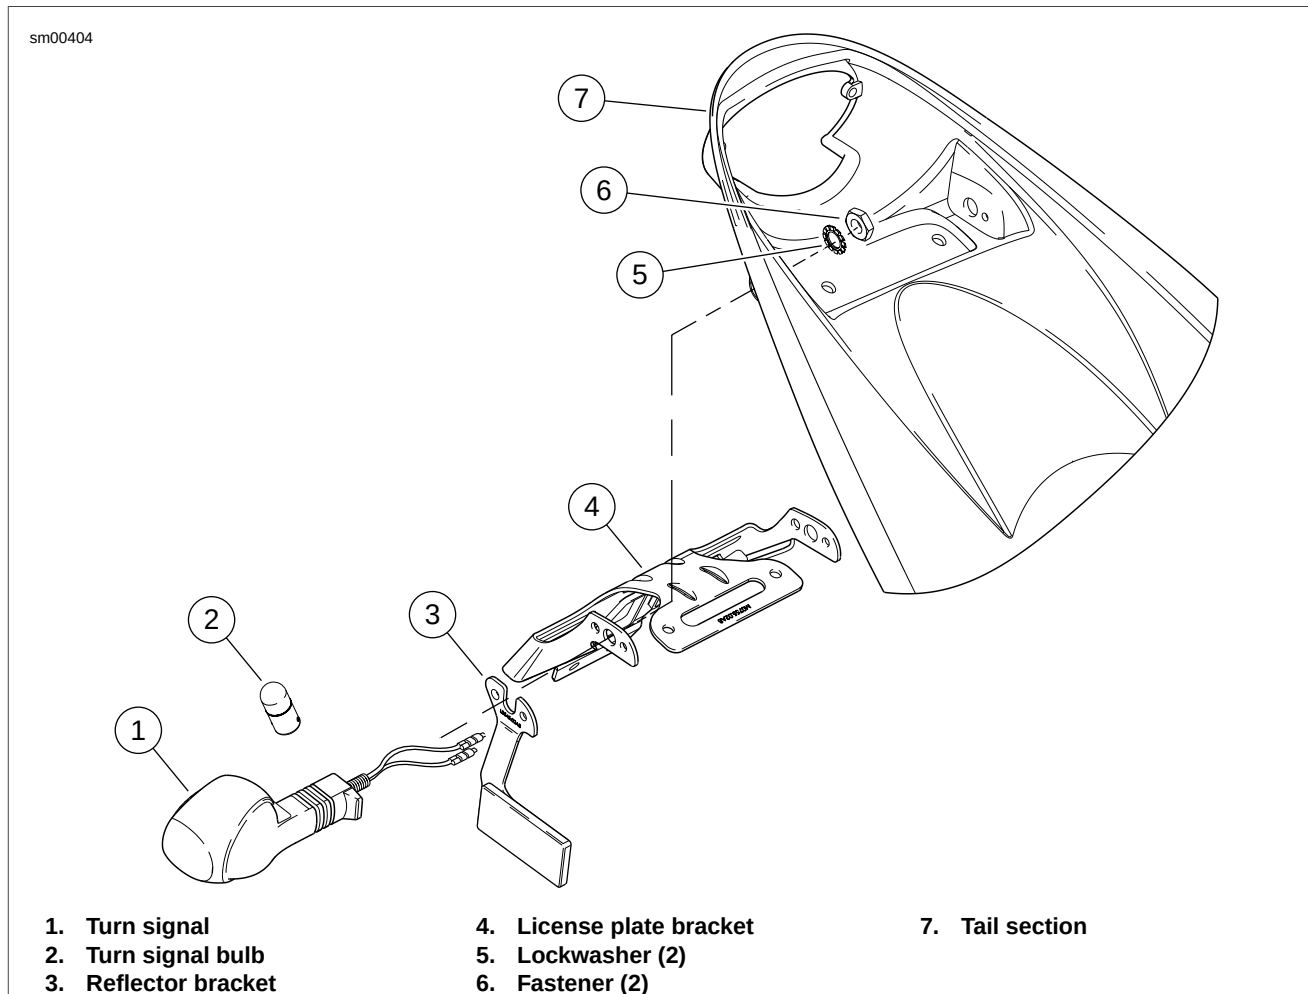

Figure 7-51. Rear Turn Signals: Firebolt
4. See Figure 7-51. Remove fastener (6) and lockwasher (5).
5. Remove turn signal from tail section (7) and license plate bracket (4).